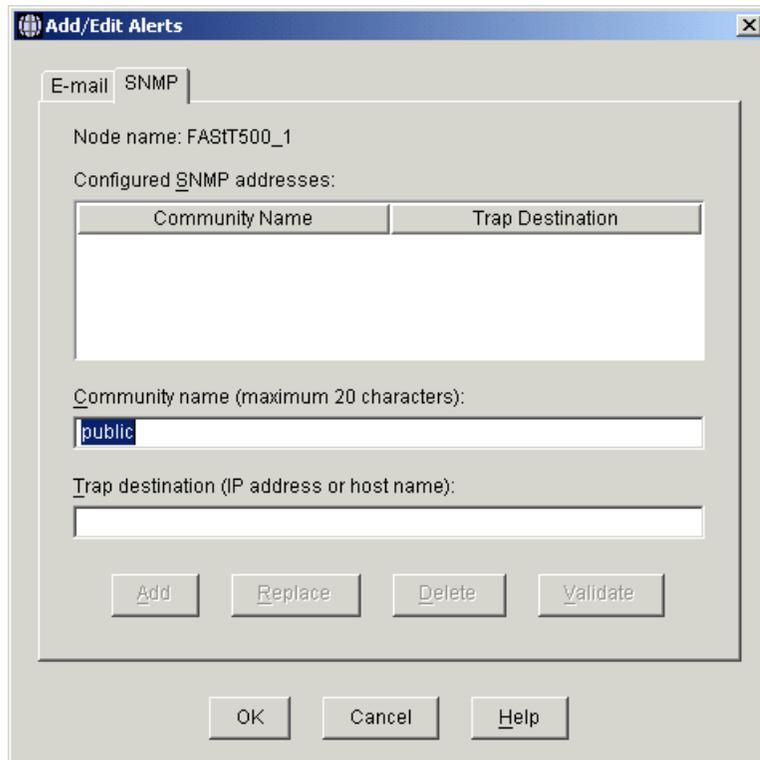

Figure 6-4 Add/Edit Alerts SNMP tab
9. The SNMP tab is displayed (see Figure 6-4):